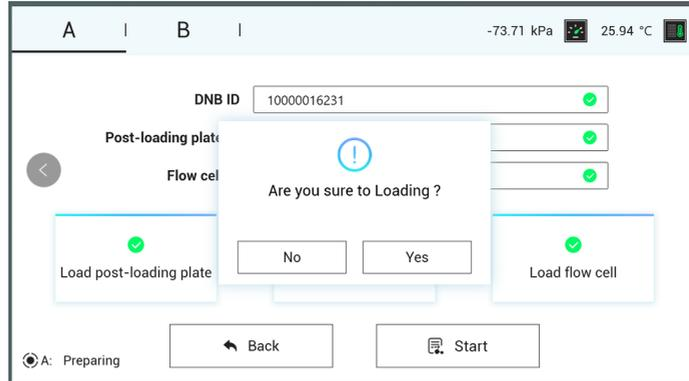
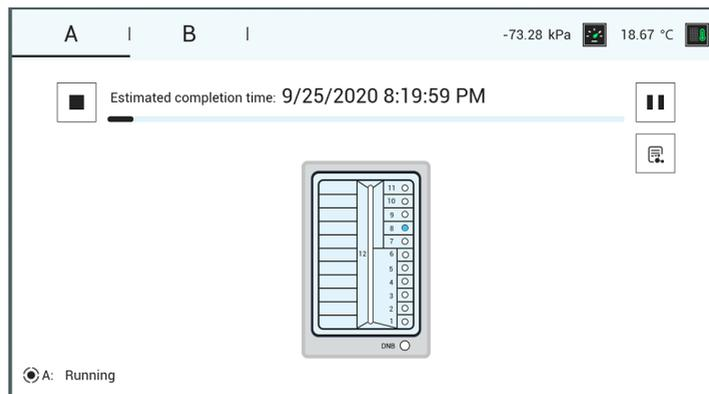

Figure 10 MGIDL-T7RS loading confirmation dialog box
Figure 11 MGIDL-T7RS flow cell loading interface
- Tap the **Start** button and select **Yes** as shown in the *Figure 10 on Page 51*. Flow cell loading starts as shown in the *Figure 11 on Page 51*.